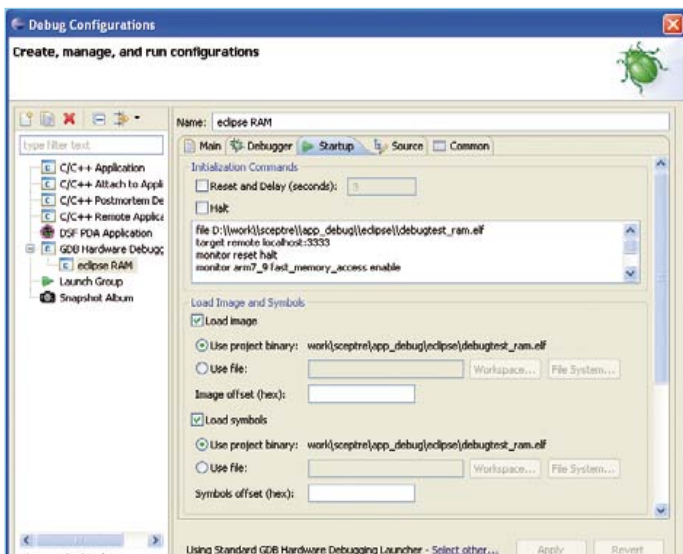

Figure 10. Third tab. The parameters accessible via the scrollbar are blank (by default).
- To load the debugging symbols, Eclipse executes GDB's command `symbol-file` instead of the `file` command. As a result, the executable is not loaded by GDB and a subsequent `load` command will fail. So in the case of debugging from the RAM, you'll have to explicitly add the `file` command to the list of start-up commands (or load the program manually in the GDB console). In that case, remember to specify the full pathname, using double slashes `\"` in place of each `\`, as in **Figure 10**.